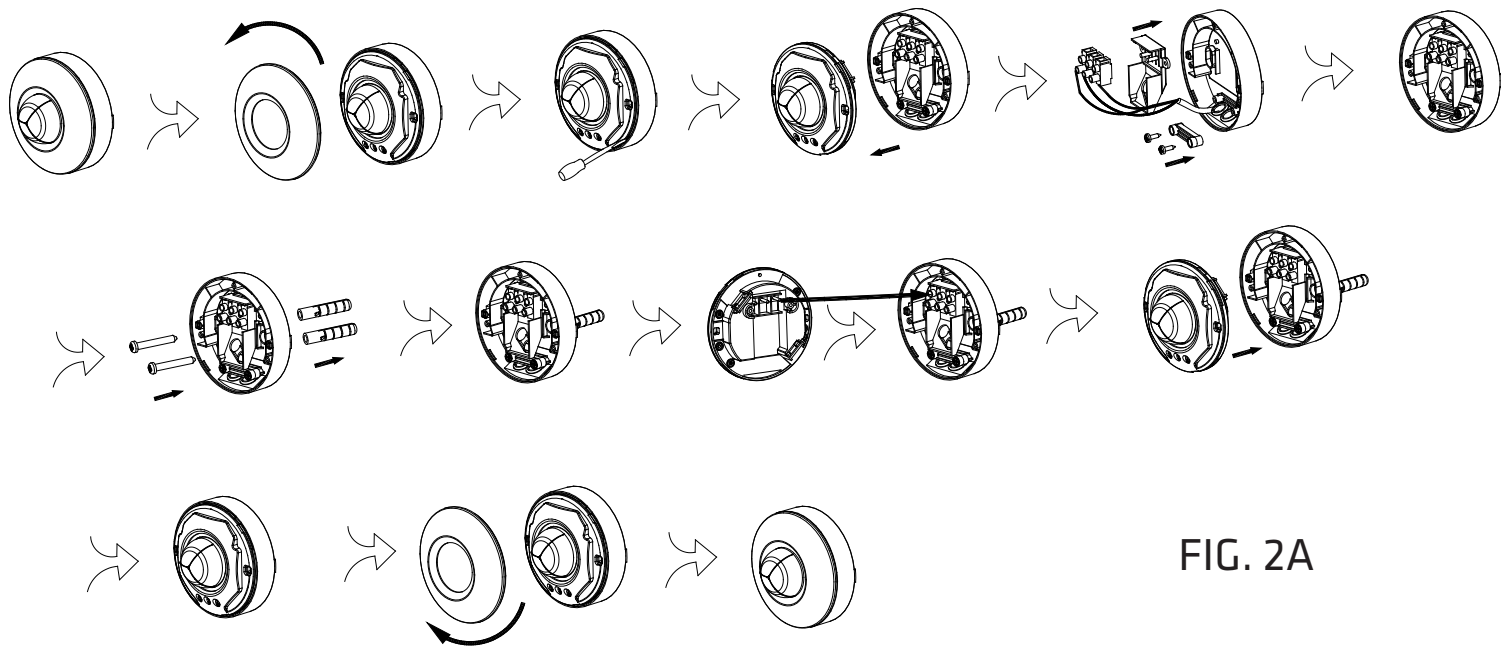
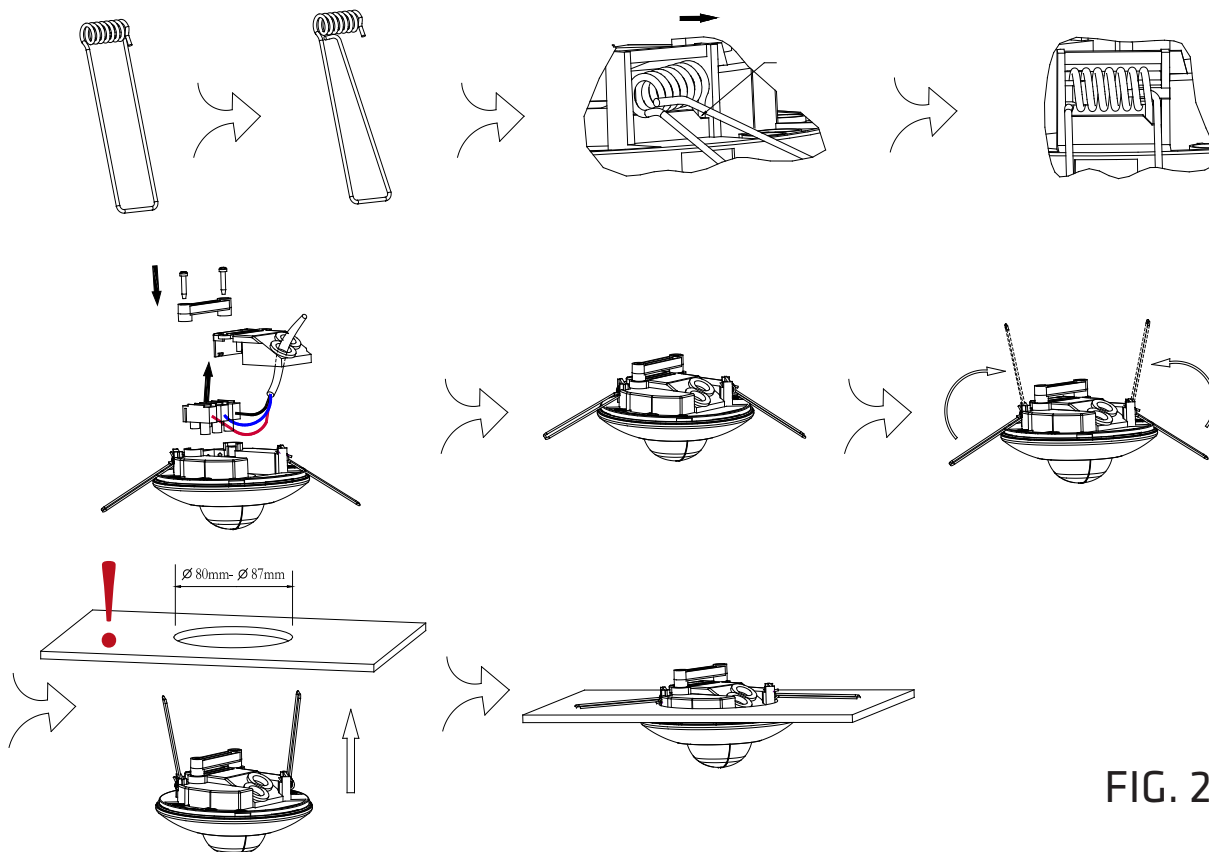

FIG. 2A
FIG. 2B
Before starting any electrical work, make sure that the power is turned off by turning off and removing the appropriate fuse. (See Fig. 2A and Fig. 2B)
### A. Ceiling installation (Fig. 2A)
### B. Recessed mounting (Fig. 2b)
1. Open the spring to position Fig. 2B